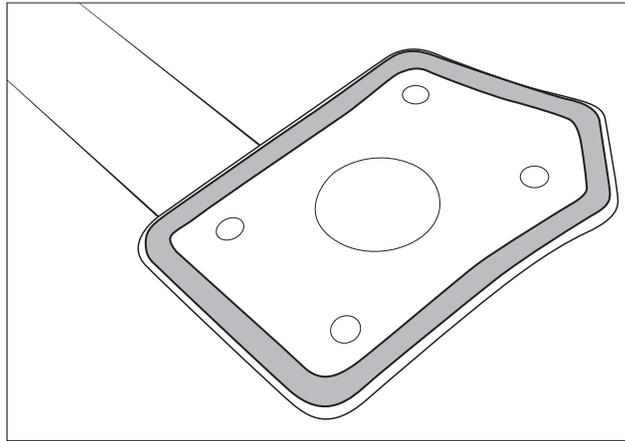

Figure 4
7. Install foam tape around the front Corner Guard Rail plate where it contacts the vehicle body (fig. 4).